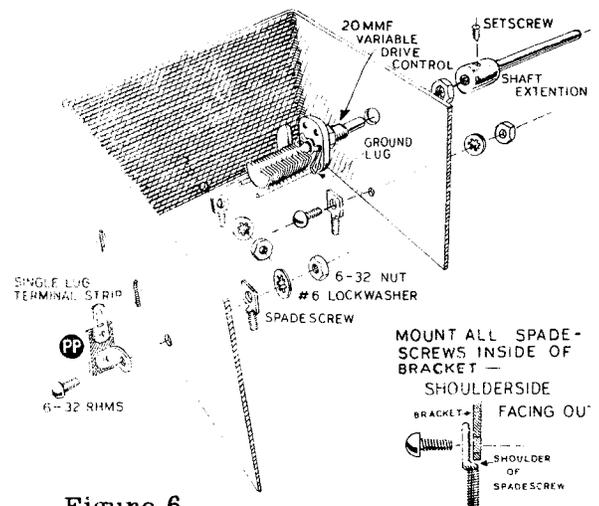

Figure 6
- () The transformer is mounted as shown in Pictorials 2 and 4. In mounting holes 1, 2, 3, 4, and 6, an 8-32 x 3/8" screw is used, inserting first through a #8 lockwasher, then through the transformer flange, the chassis, another #8 lockwasher and an 8-32 nut. For hole #5 a 6-32 x 3/8" screw is used, inserting first through a #6 lockwasher, then through the flange, the chassis, the mounting foot of 4 terminal tie strip (LL), another #6 lockwasher and a 6-32 nut. See Pictorial 2.
- () Select the shield bracket and mount the three spade screws and the remaining single terminal tie strip as shown in Figure 6. Use 6-32 x 1/4" screws with #6 lockwashers and 6-32 nuts. Notice that the one spade screw is mounted with the nut on the outside of the shield.
- () Mount the 20 μf variable capacitor on the shield bracket with the ground lug facing as shown in Figure 6. Check the fit of the shield in the chassis and when finished set it aside until it can be mounted. Refer to Pictorial 3.